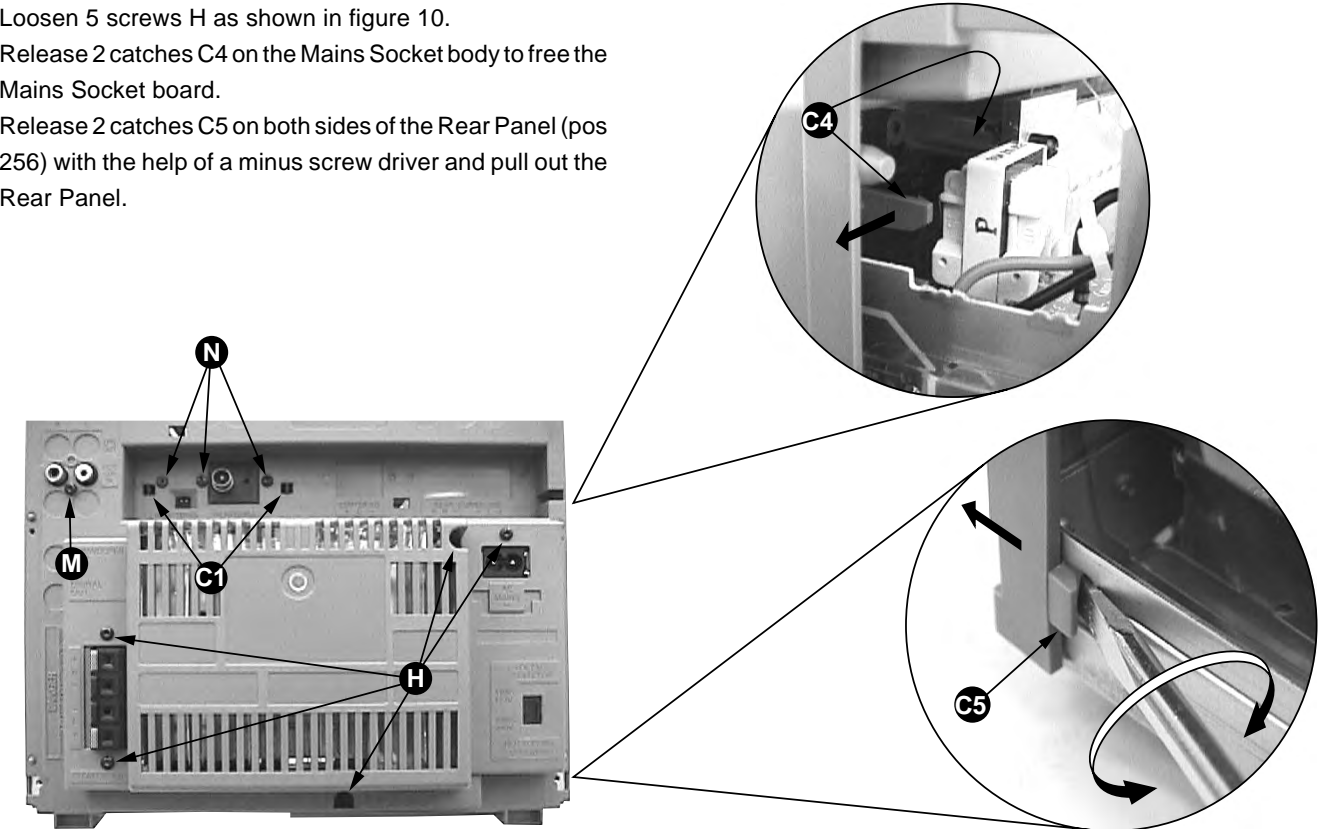

Figure 10
- 6) Loosen 3 screws N (see figure 10) on the Panel Rear (pos 256) and release 2 catches C1 to remove the Tuner Board.
- 2) Loosen 1 screw M on the Rear panel (pos 256) to remove the AF9 board as shown in figure 10.
- 4) Release 2 catches C3 on both sides of the Front Cabinet (pos 101) and pull the Front Cabinet assembly out of the Bottom plate (pos 265).
- 1) Loosen 5 screws H as shown in figure 10.
- 3) Release 2 catches C5 on both sides of the Rear Panel (pos 256) with the help of a minus screw driver and pull out the Rear Panel.